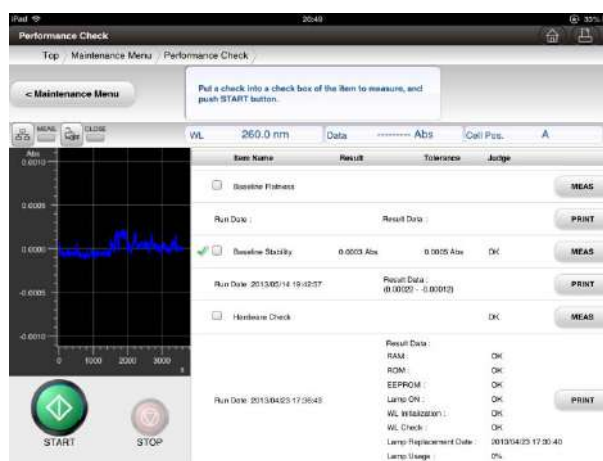

Fig. 6-17 Post-Baseline Stability Check Screen
- (2) The guidance for measurement under way is displayed and conditions are set. Then, the baseline stability check is performed.
- (3) After the baseline stability check is performed, the Post-Baseline Stability Check screen (Fig. 6-17) is displayed. The measurement result is displayed on the Baseline Stability section and "OK" if the value is within the standard or "NG" if the value is out of the standard is displayed. In the case of "NG", perform the check again in the above procedure. If "NG" is displayed again, see "7.10 Troubleshooting."